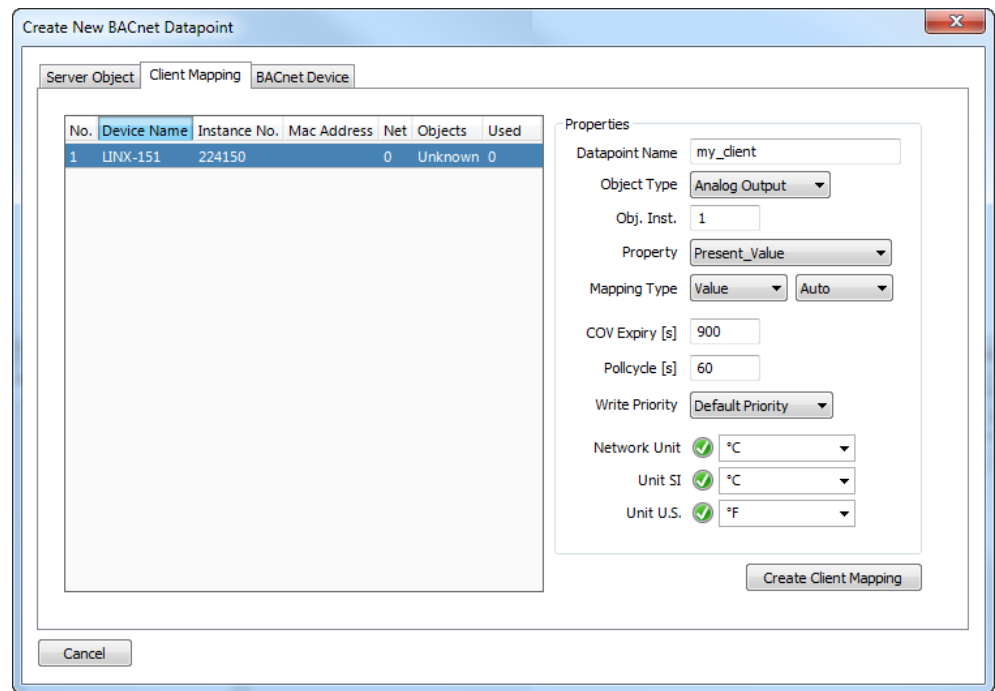

Figure 107: Create Client Mapping Dialog.
2. Right-click in the data point list and select **New Datapoint...** in the context menu. This opens the **Create New BACnet Point** dialog as shown in Figure 107.